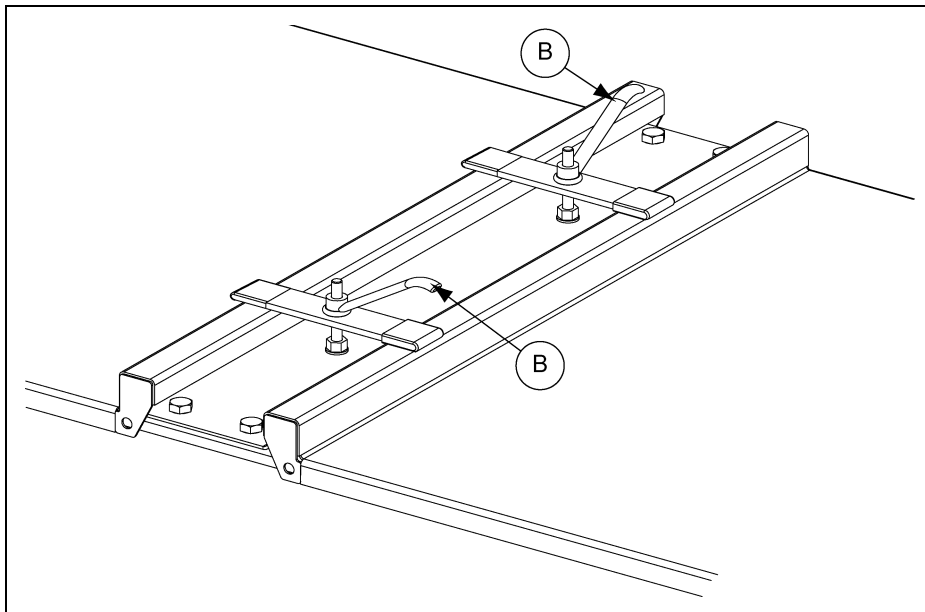

Figure 4G
2. When a loader is on the conveyor, the cover section may have to be cut accordingly to accommodate the loader. (See Figure 4G.) For installation of a loader, see loader installation on Page 21.